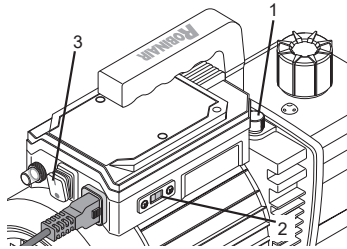

Figure 7
6. Check voltage selector switch position (2) (see Figure 7) to ensure voltage selection matches voltage rating of power supply.
1. Switch ON (3) the Vacuum pump (see Figure 7).
The gas ballast valve (1) is located beside the handle, opposite the inlet fitting (see Figure 7).
3. Switch OFF (3) the Vacuum pump (see Figure 7).